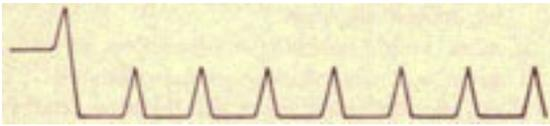

Figure 4 SF-3. Pattern for calibrating 2,000-yard range on 16,000-yard scale.
- Set range dial (2), upper center, carefully to 1.75 on the *bottom* scale (1,750 yards).
- Adjust 16,000-yard zero set (8), located on the lower left side of the range knob, with a screwdriver until the trace looks like figure 4 SF-3. That is, until the first range mark is on the edge of the step as illustrated. The right side of the first range mark, makes an almost straight line from its peak to the bottom of the step.